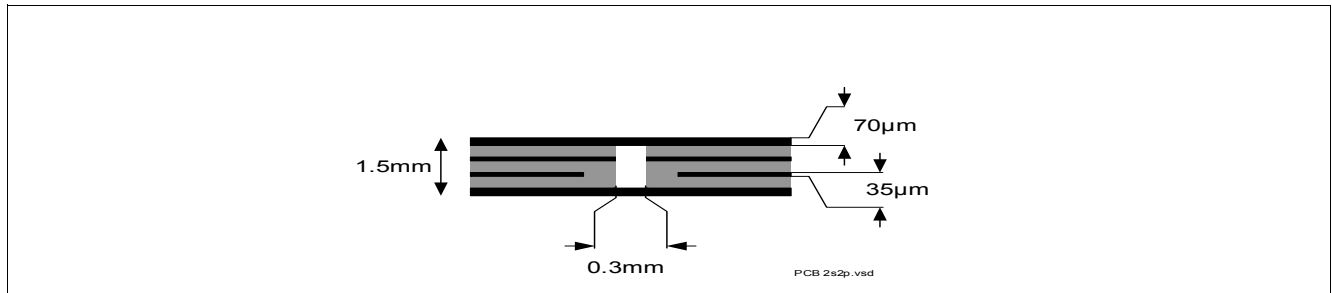

Figure 4 2s2p PCB Cross Section
- 2) Specified R_{thJA} value is according to JEDEC JESD51-2,-5,-7 at natural convection on FR4 2s2p board with 1 W power dissipation at $T_A=105^{\circ}\text{C}$. The product (chip + package) was simulated on a 76.4 x 114.3 x 1.5 mm board with 2 inner copper layers (2 x 70 μm Cu, 2 x 35 μm Cu). Where applicable, a thermal via array under the exposed pad contacts the first inner copper layer. Please refer to Figure 4.